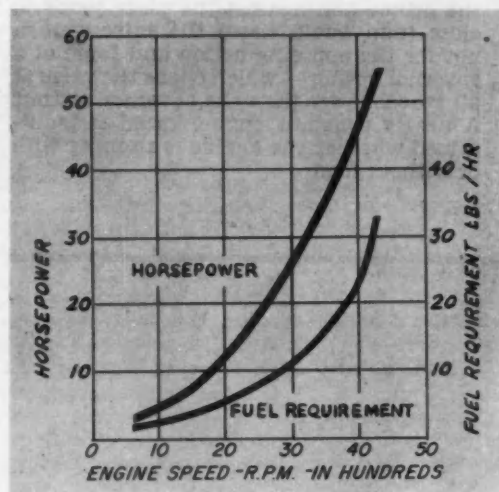

Fig. 7 — Friction horsepower and fuel requirement versus engine speed.
- The fuel required with high engine speeds contraindicates economical operation (Fig. 7). The friction horsepower, inherent in all engines, increases rapidly with speed.